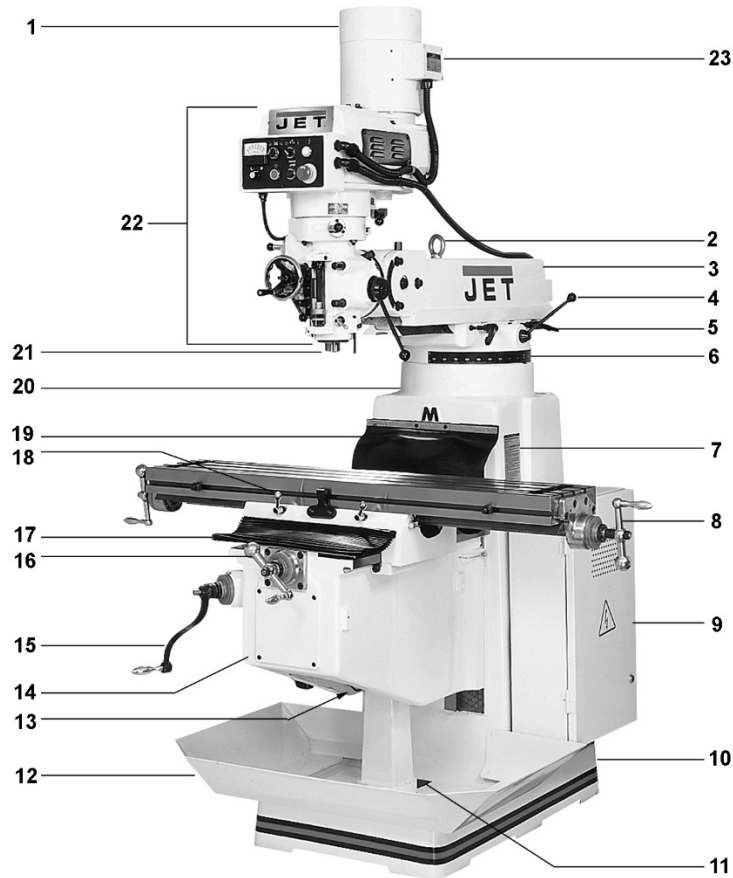

Figure 2: Features and Terminology
4. Some of the following steps may have already been performed on the machine. If so, ignore the instructions related to those particular steps. Otherwise, perform them in the order listed. Refer to Figures 2 and 5 to help locate items.